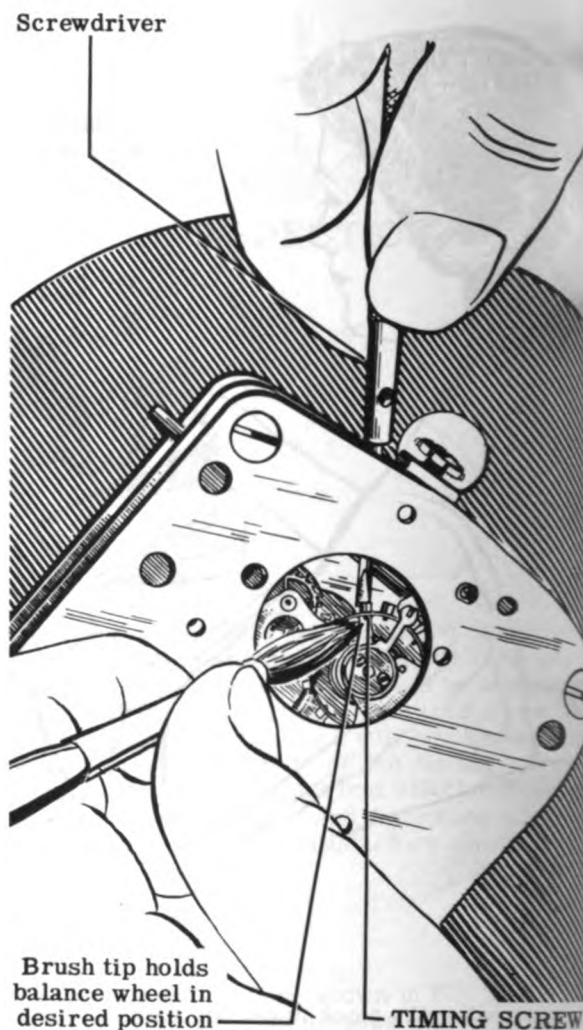

Figure 134
5. Adjust the two timing screws to correct the error as shown in Fig. 134. These two screws are smaller in head size than the other balance screws and are located close to the ends of the balance arms. Each complete turn of the timing screws is equivalent to approximately 60 seconds per day, so that there is an overall adjustment of approximately 120 seconds per day available by adjusting the timing screws in these Seth Thomas clocks. If the chart recording shows that the clock is gaining time, turn the timing screws out; and, if the recording shows that the clock is losing time, turn the timing screws in. Both timing screws should be adjusted exactly the same amount and in the same direction.